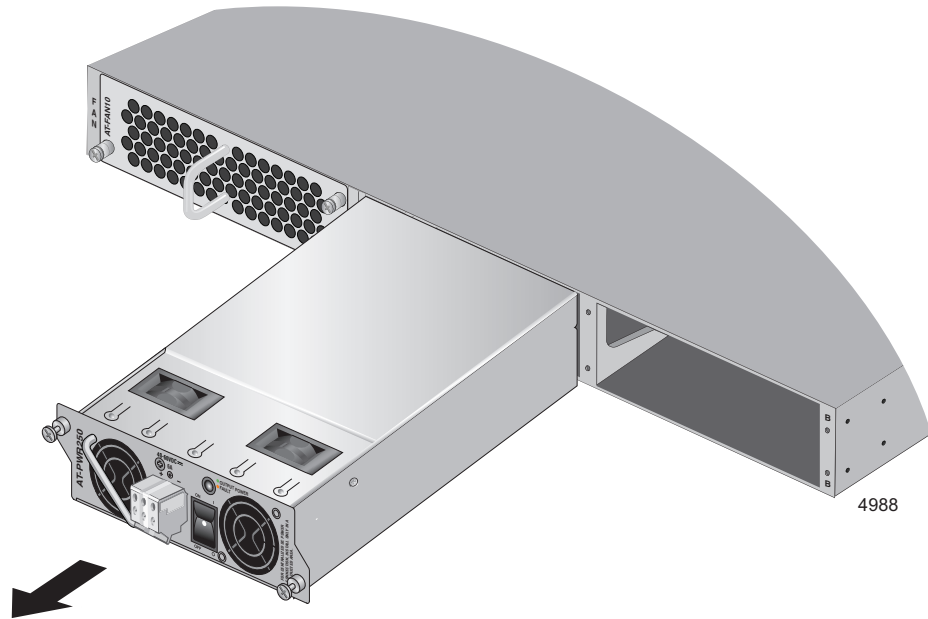

Figure 99. Removing a Power Supply
9. Carefully slide the power supply from the switch. Refer to Figure 99 on page 228.